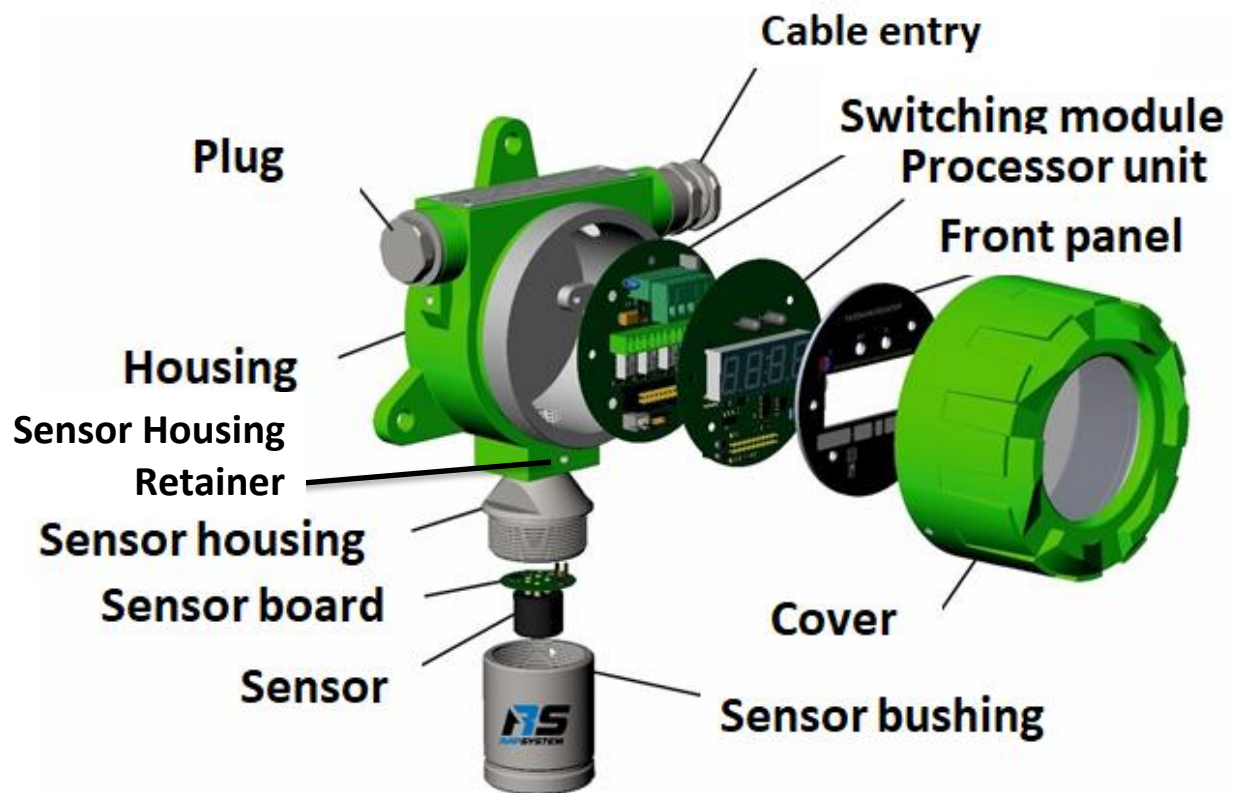
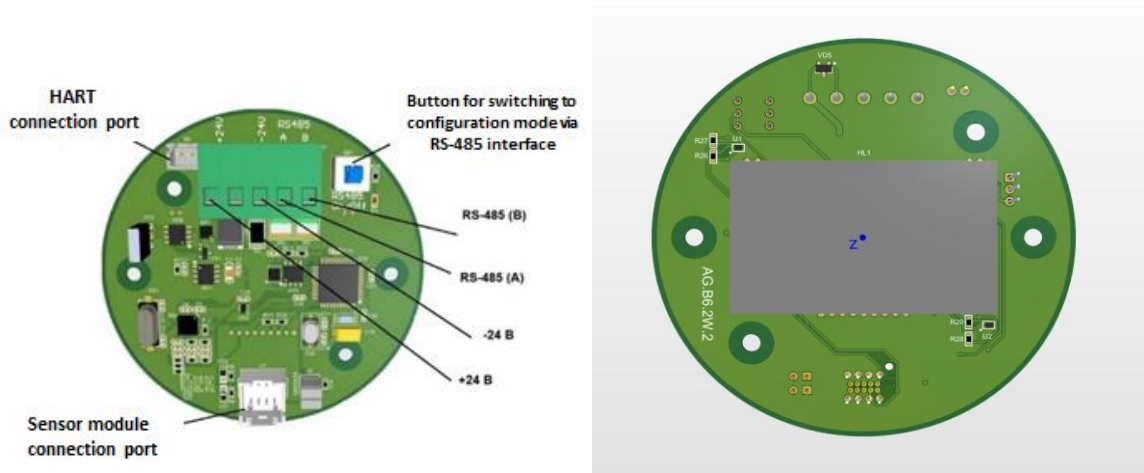

Figure 1
Figure 1.5 General view of the processor unit for the version with an LCD indicator for two-wire connection with a passive current output.
3.1.10 When disassembling the gas detector housing to access the sensor (e.g., for sensor replacement, filter cleaning, etc.), it is necessary to get acquainted with the structure of the gas detector components (Figures 1 and 1.1) **in advance**. Only the part called the **Sensor Bushing** should be unscrewed (counterclockwise — after loosening the bushing's locking mechanism). The **Sensor Housing** and the **Sensor Housing Retainer** **should not be** unscrewed to avoid damaging the electrical cable from the sensor module and the **Sensor module connection port** (see Fig. 1.5).